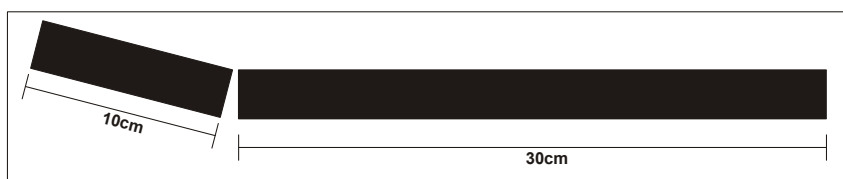

Figure 2 Cut 10cm of Tape
2. Cut 10cm of tape from the 40cm piece included in the MicroTiles Setup Kit (Figure 2).